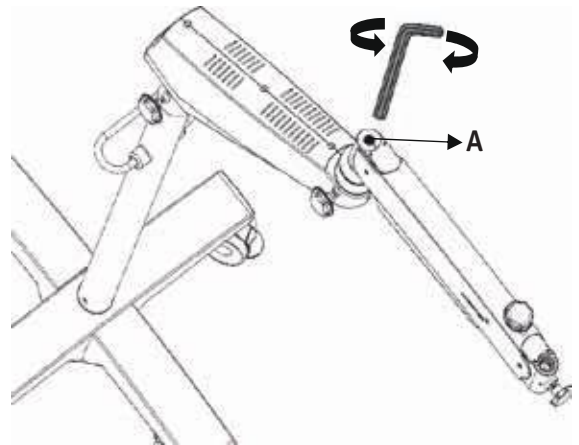

Fig. 23
- a. Refer Fig.23 Use an 8mm allen wrench in bolt (A) . Rotate it clockwise to increase the tension as desired. Rotate it counterclockwise to decrease the tension as desired.